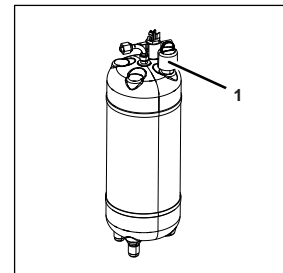

Fig. 25
1. Open the drain valve (Fig. 25/1) of the carbonator tank until liquid starts coming out of the drain valve (Fig. 25/1).